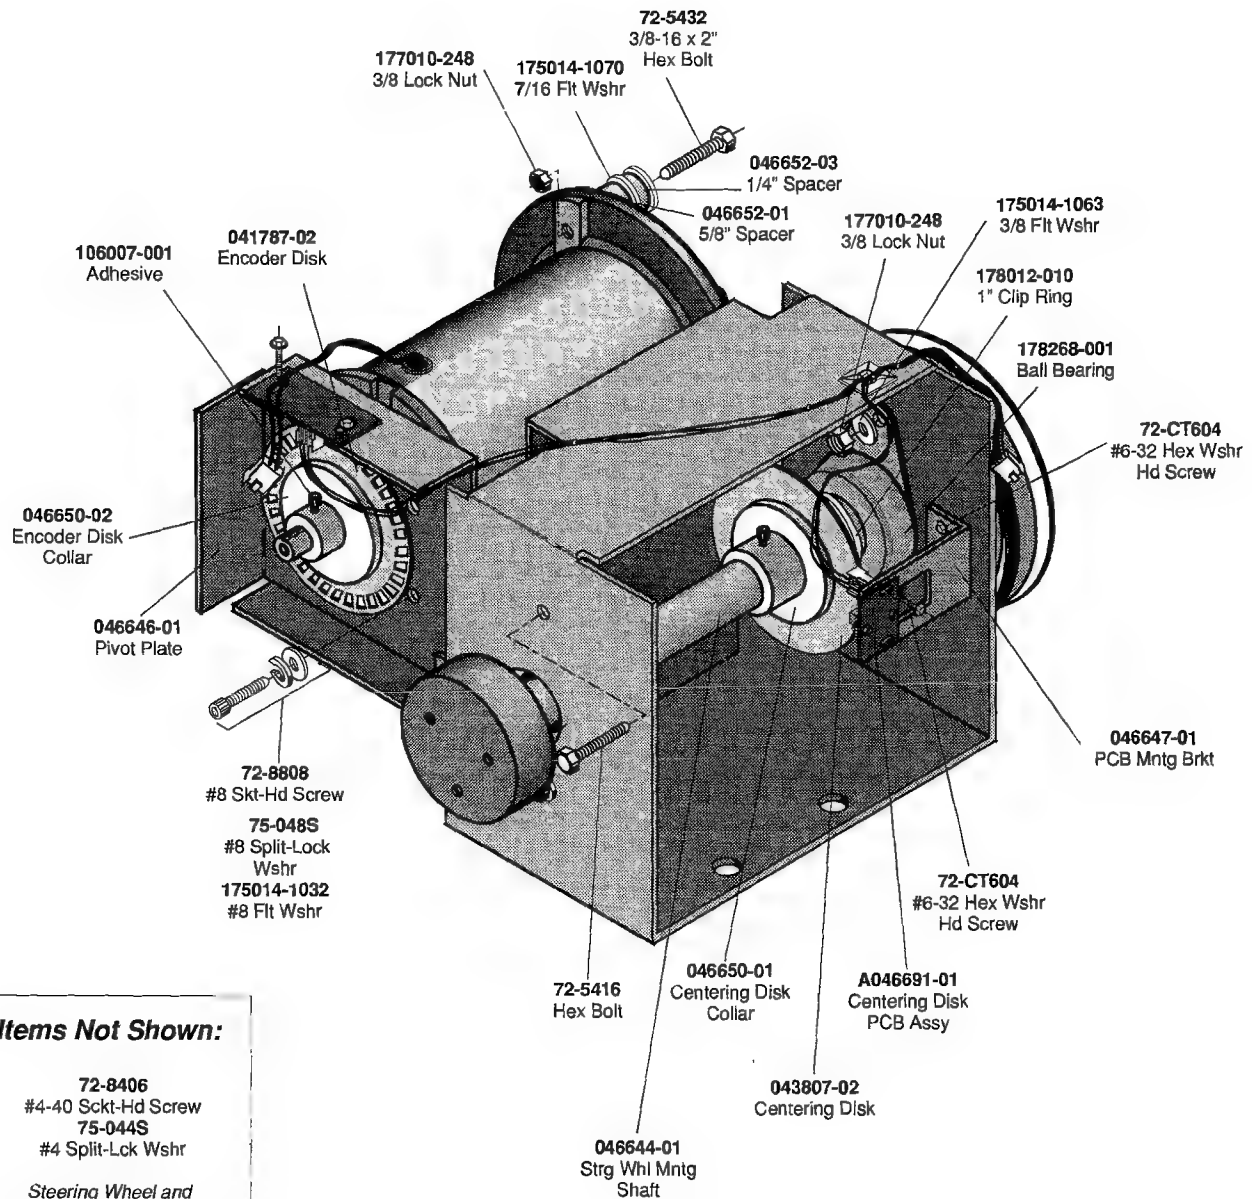

Figure 3-8 Steering Assembly, Front View
in the cover plate of the steering wheel. Take off the steering wheel and cover plate. See Figures 3-8 and 3-9.
tension. See Figure 3-8. Install the parts on the bolt in the following order:
2. Remove the three tamperproof screws and washers in the cover plate of the steering wheel. Take off the steering wheel and cover plate. See Figures 3-8 and 3-9.